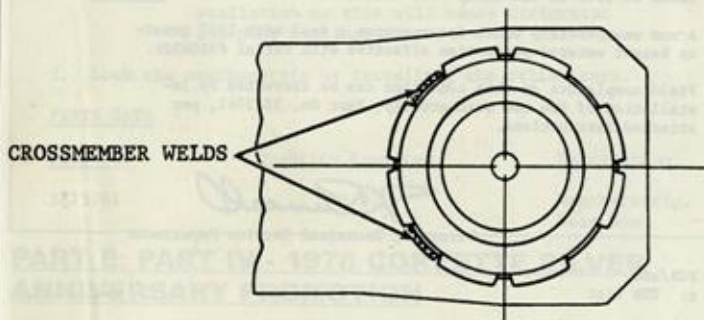

FIGURE 1
2. Coat the new mount and cavity with chassis grease and with tabs positioned to straddle the crossmember welds, Figure 1, press the new mount into the crossmember applying force to the outer sleeve.